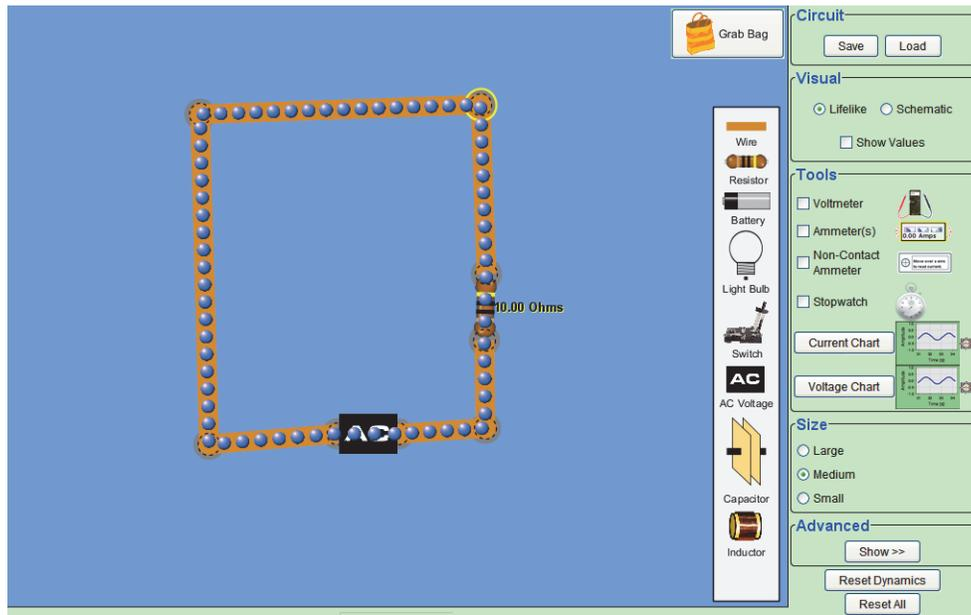

Figure 7
6. Using the PHET AC Circuit Simulation set up the circuit as shown in Figure 7.